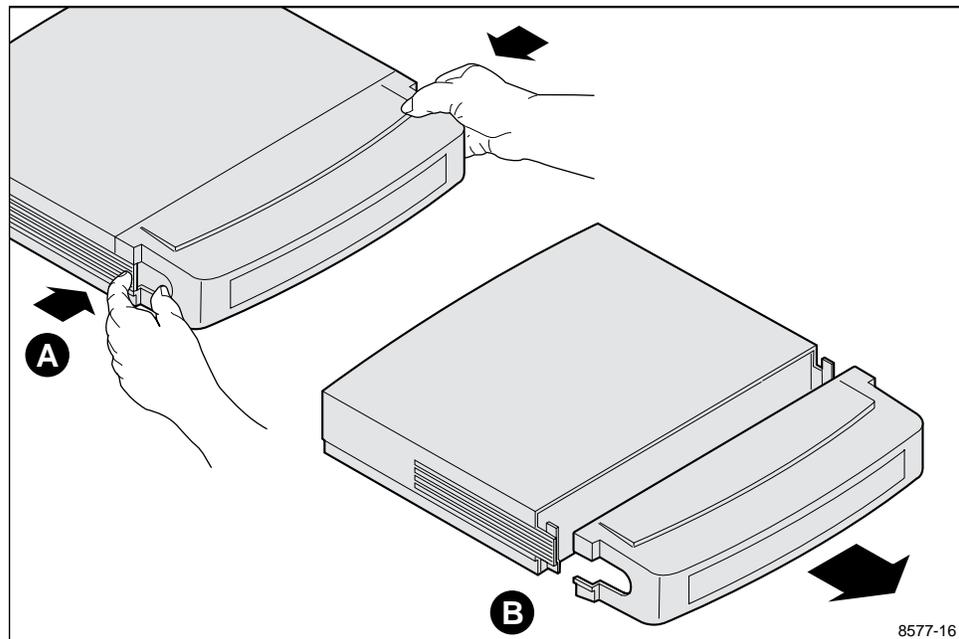

Figure 21. Removing the Cable Cover
1. If you have not already removed the cable cover, remove it now. Press in on the tab on each side of the cover as shown in part A of Figure 21. Holding the tabs in, pull the cable cover from the chassis in the direction of the large arrow (see part B).